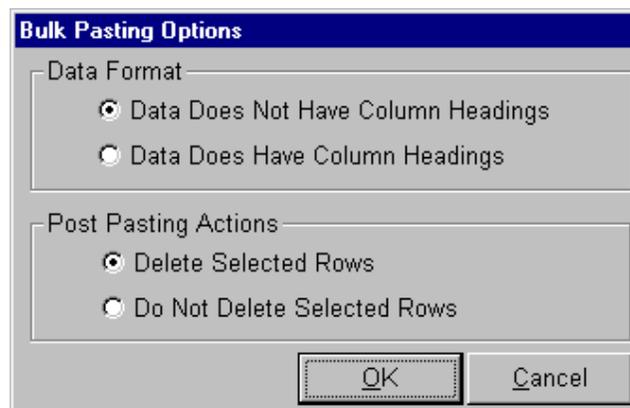

Figure 3-6: Bulk Pasting Options
- To PASTE *one or more rows* of data from the Windows clipboard into an active worksheet window, either highlight a row to be replaced or add a blank row using the Add button  on the toolbar, then select *Edit/Bulk Paste* from the main menu. An option window (Figure 3-6) will open. Select whether or not the data includes column headings and whether or not to delete (replace) selected rows. Data can be pasted into a worksheet window from any Windows application, but if the columns of data do not match what is expected in the current window, the system will display an error message for each column of each row that is incorrect. For example, if you attempt to paste a character string into a column that is formatted for date or numeric, an error will result.
Before the bulk paste can be performed, the system displays a pop up window of bulk pasting options (Figure 3-6).